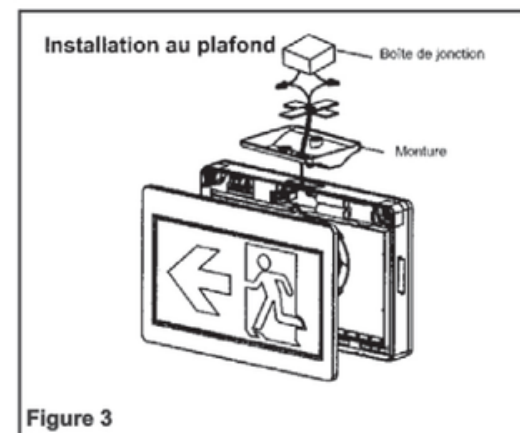

Figure 3
2. Knockout appropriate mount screw hole and cable hole, mount back plate on the wall after feed building AC supply cable into back plate (see Fig 3).